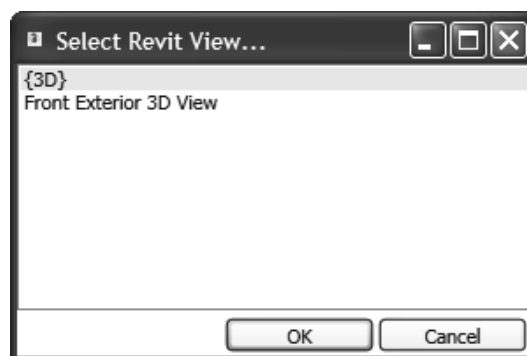

Figure 3–38
4. The Status Bar is replaced by the Upgrading file bar, indicating the progress of the file as it loads. Once loaded, the Select Revit View dialog box opens, as shown in Figure 3–38.